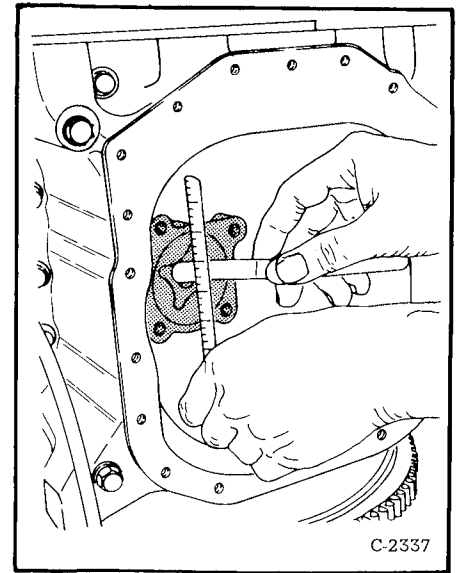

Fig. 8-56 Check for Oil Pump Wear
- (1) Make a visual check of the vane, rotor and pinion gear for wear. Install new parts if the amount of wear is over specifications.
- (2) Measure the clearance between the rotor, vane and cover. (See Specifications Section.) Make replacement of either the rotor or the vane if the measured amount is over the limit for servicing (Fig. 8-56).